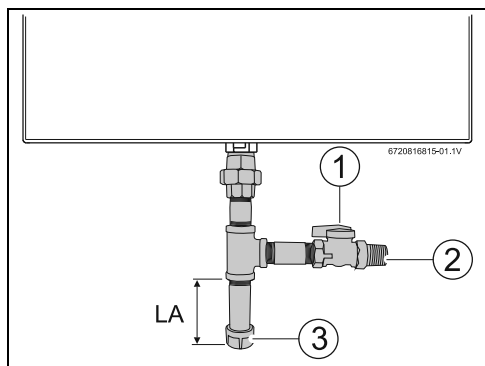

Fig. 25 Gas connection
- National Fuel Gas Code requires that a sediment trap (drip leg) be installed on gas appliances not so equipped. The drip leg must be accessible and not subject to freezing conditions. Install in accordance with the recommendations of the serving gas supplier, see fig. 25.